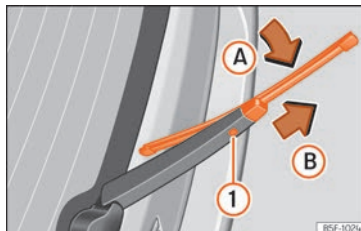

Fig. 41 Changing the rear wiper blade
- Turn the blade slightly >>> Fig. 41 (arrow A).
- Hold down the release button ① while gently pulling the blade in the direction of arrow ②.
- Insert a new blade of the **same length and type** in the rear wiper arm in the opposite direction to the arrow ② and hook into place button ①.